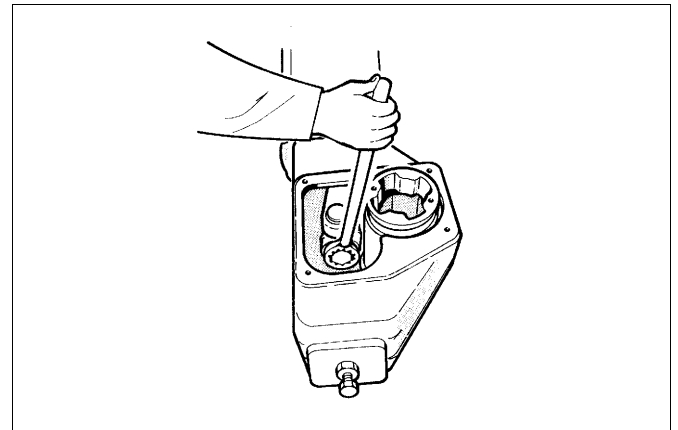

Fig. 10 Opening the fastening screw of the actuator bearing unit
- ☐ Remove the cylinder end side stop screw (26).
- ☐ Remove cylinder end (44).
- ☐ Remove housing cover (2).
- ☐ Unscrew the bearing screw (29) and the cylinder fastening screws (31) from the cylinder base (6) side, see Fig. 10. If the piston turns, do not prevent the turning with the piston fastening nut; send the entire actuator to the manufacturer to be repaired. **It is very dangerous if the lock welding of the piston fastening nut is broken!**
- ☐ Remove piston rod seal (16) and bearing (22). Clean the seal space.
- ❑ Remove cylinder end side stop screw (26).
- ❑ Remove housing cover (2).
- ❑ Open bearing unit (5) fastening screw (29). See Fig. 10.